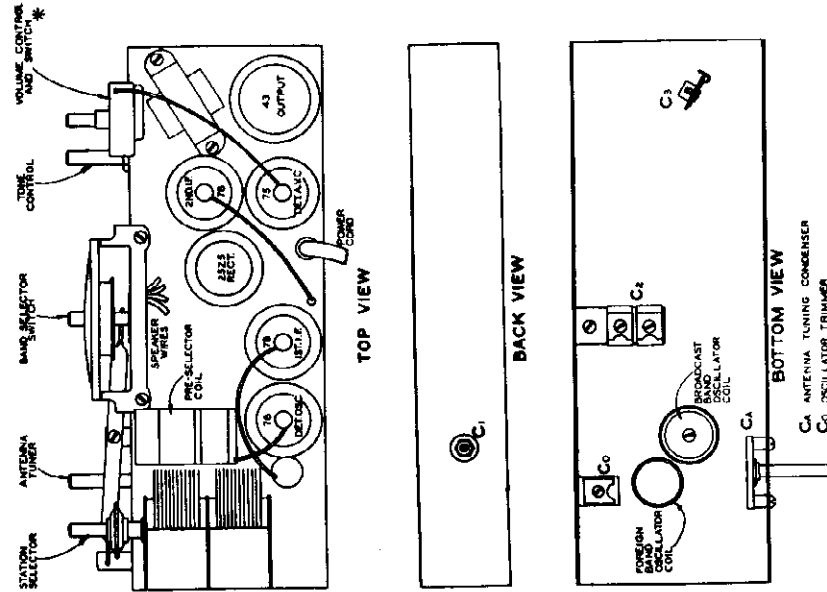

Fig. 6. CHASSIS DIAGRAM FOR SPARTON MODELS 65, 65-T, 66 AND 66-T
(2) Turn on receiver and test oscillator, and allow both to operate several minutes before attempting to align any condensers.
(3) Warning: Before connecting test oscillator to receiver, be sure to read carefully the operating instructions included with the test oscillator. Connect "antenna" of test oscillator to grid cap of type 78 first detector oscillator tube, and "ground" of test oscillator to chassis frame of receiver.
(4) Tune test oscillator to obtain signal of 456 kilocycles.
(5) Turn volume control of receiver on full, and place Band Selector Switch in Broadcast Position. Make sure condenser plates are turned all the way out.
(6) Adjust I-F condensers (C₁, C₂, and C₃). See Fig. 6.
(7) Disconnect "antenna" leads of test oscillator tube and connect to the antenna terminal of the chassis.
(8) Tune test oscillator to obtain a signal of 1500 kilocycles.
(9) Tune station selector of receiver to 1500 kilocycles. Also adjust antenna tuning condenser (C_A).